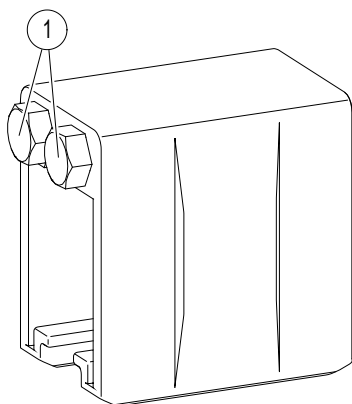

Fig. 88: Side screws on the anchor clamp
- Tighten the two side screws (Pos. 1) (see Fig. 88) on the anchor clamp with the specified torque (SW 8, torque wrench: **10 Nm**). If present, the adjusted air gap of the expansion points in the expansion unit must be checked again on the closest expansion units after the fixed point has been tightened (see Section 6.4.3.6).